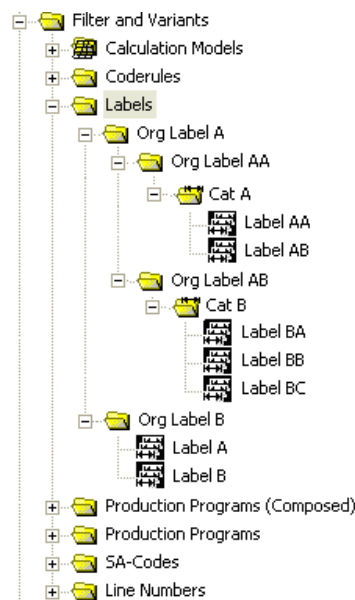

Figure 75: Structuring org Labels, Label Categories, and Labels
Labels and label categories can be grouped under organizational substructure org labels or label folders without change in filtering behavior. Project filtering dialog displays the Labels/Label category within their respective structure. *Please refer to the Figure 75.*
1. Open the project library and select under **Filter and Variants** the **Label** entry. Select **New > Org Label** in the context menu. *Please refer to the Figure 75 and Customization.*
In Figure 75 “Org Label A” is new folder (“Org label”) and it contains two more org labels in it, “Org Label AA” and “Org Label AB”, “Cat A” is label category under org label “Org Label AA”, under label category “Cat A” there are two labels “Label AA” and “Label AB” are shown.